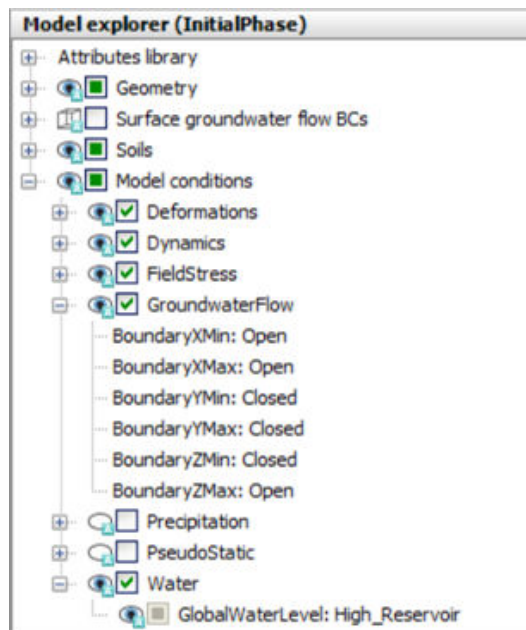

Figure 116: Boundary conditions for groundwater flow
- In the **GroundwaterFlow** subtree set **BoundaryYMin**, **BoundaryYMax** and **BoundaryZMin** to **Closed**. The remaining boundaries should be **Open** (See Figure 116 (on page 142)).